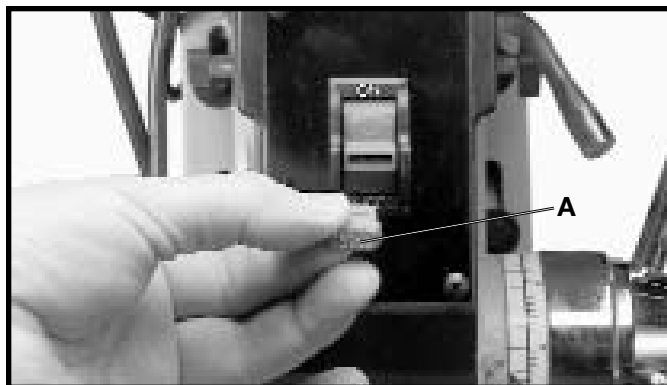

Fig. 18
When the tool is not in use, the switch should be locked in the "OFF" position to prevent unauthorized use of the tool. To lock the switch in the "OFF" position, grasp the switch toggle (A) and pull it out of the switch, as shown in Fig. 18. With the switch toggle (A) removed, the switch will not operate. However, should the switch toggle be removed while the drill press is operating, the switch can be turned "OFF" once, but cannot be restarted without inserting the switch toggle (A).